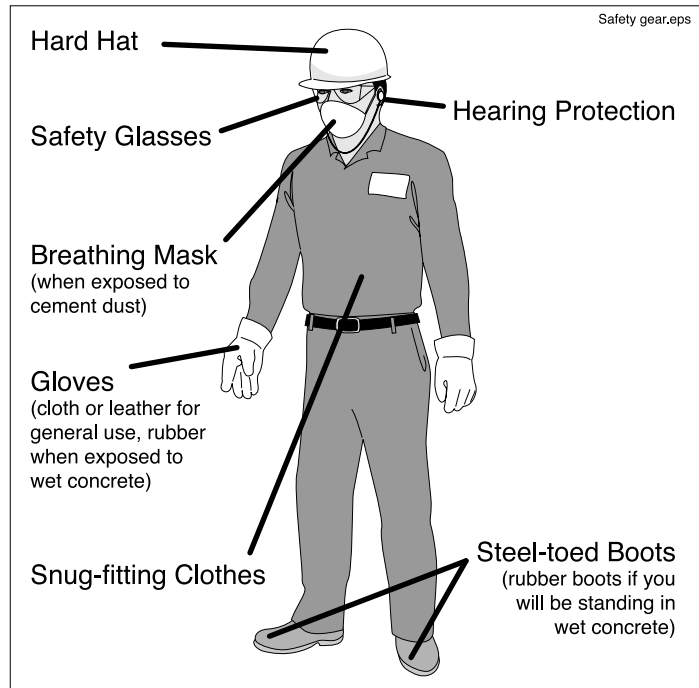

Figure 1
1.1 ⚠️ WARNING! Always wear Personal Protective Equipment (PPE) when working near a concrete pump. Safety glasses, hard hat, ear protection, and rubber gloves are especially important when working near the hopper. See Figure 1.